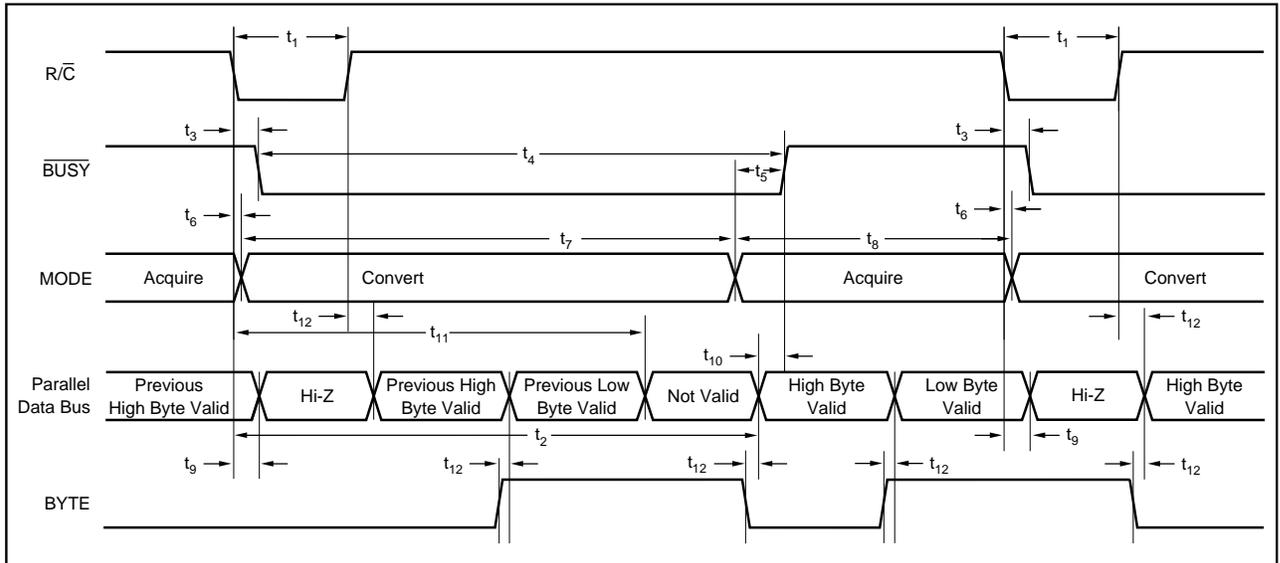

FIGURE 2. Conversion Timing with Parallel Output ($\overline{\text{CS}}$ and DATACLK tied LOW, $\overline{\text{EXT/INT}}$ tied HIGH).
The ADS7807 will begin tracking the input signal at the end of the conversion. Allowing 25µs between convert commands assures accurate acquisition of a new signal. Refer to Tables III and IV for a summary of \overline{CS} , R/\overline{C} , and \overline{BUSY} states and Figures 2 through 6 for timing diagrams.
NOTE: (1) See Figures 2 and 3 for constraints on data valid from conversion "n-1".
After conversion 'n' is completed and the output registers have been updated, $\overline{\text{BUSY}}$ (pin 24) will go HIGH. Valid data from conversion 'n' will be available on D7-D0 (pins 9-13 and 15-17). $\overline{\text{BUSY}}$ going high can be used to latch the data. Refer to Table VI and Figures 2 and 3 for timing constraints.
After conversion 'n' has been initiated, valid data from conversion 'n-1' can be read and will be valid up to 12 μs after the start of conversion 'n'. Do not attempt to read data beyond 12 μs after the start of conversion 'n' until $\overline{\text{BUSY}}$ (pin 24) goes HIGH; this may result in reading invalid data. Refer to Table VI and Figures 2 and 3 for timing constraints.